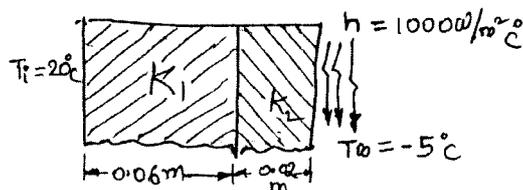

Fig.Q7(b)
b. Determine the temperature distribution through composite wall shown in Fig.Q7(b) where the convective heat loss occurs on the right surface. Take  $K_1 = 6 \text{ W/m}^2\text{C}$  and  $K_2 = 20 \text{ W/m}^2\text{C}$ . (10 Marks)